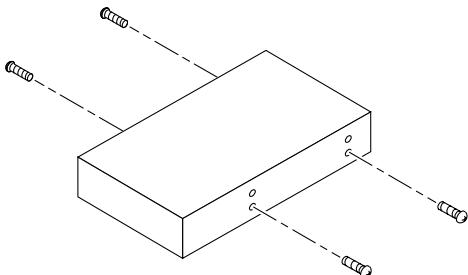

FIGURE 2-2 Starting the Mounting Screws
- a. Start the four mounting screws in the side of the drive (see FIGURE 2-2).**